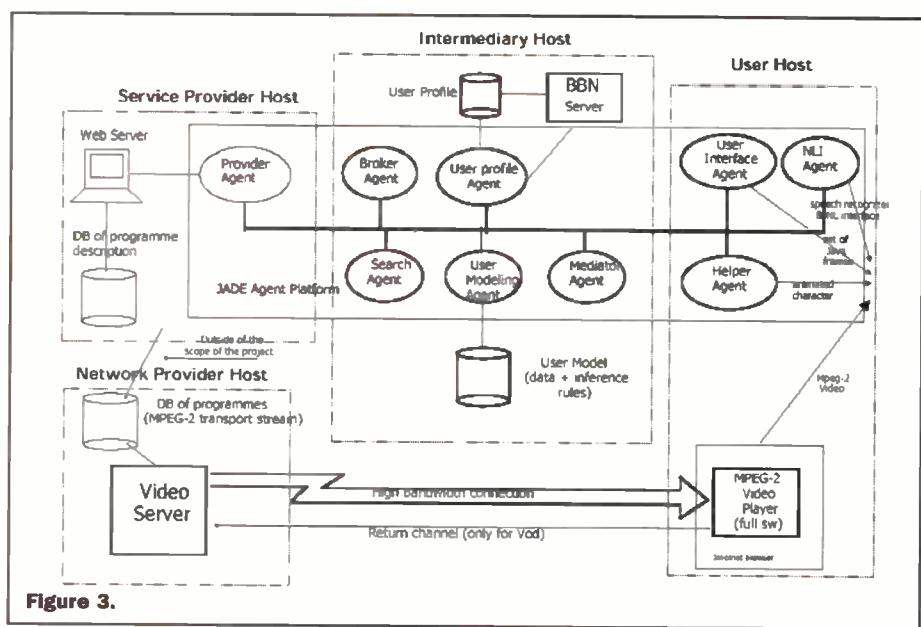

Figure 3.
Returning to the FACTS AVEB demonstrator; the MAS uses the Java Agent Development (JADE) Platform for its functions (see Figure 3). This is a FIPA-compliant platform developed by CSELT, which includes the Agent Management System (AMS), Directory Facilitator (DF) and